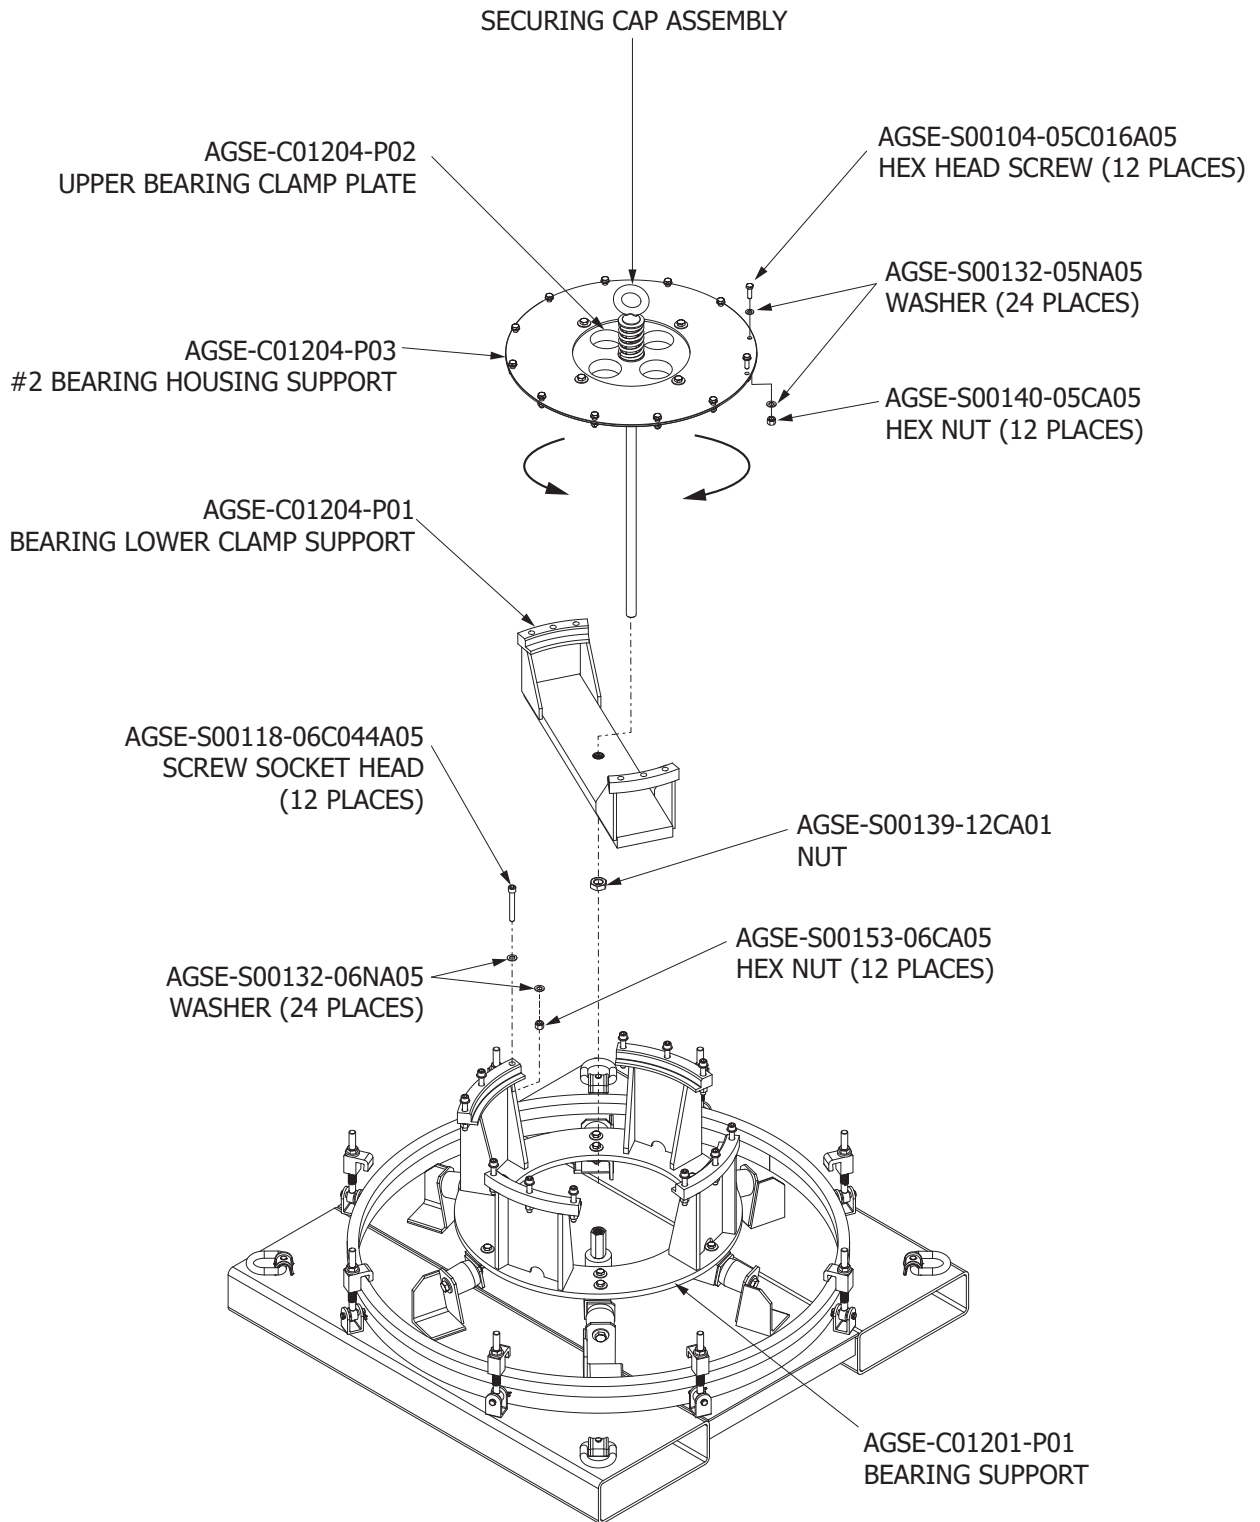

Figure 5.2-1. Bearing Cap Plate Support and Securing Cap Removal
- 3) Remove twelve (12) socket head screws, twelve (12) hex nuts and twenty four (24) flat washers from the bearing support (Figure 5.2-1).
- 8) Remove twelve (12) hex head screw, twelve (12) hex nut and twenty four (24) washers from (AGSE-C01204-P03) #2 Bearing housing support (Figure 5.2-1)
- 5) Remove twelve (12) socket head screws, twelve (12) hex nuts and twenty four (24) flat washers from the bearing support (Figure 5.2-1). that secure #1 Bearing to (AGSE-C01201-P01) bearing support.